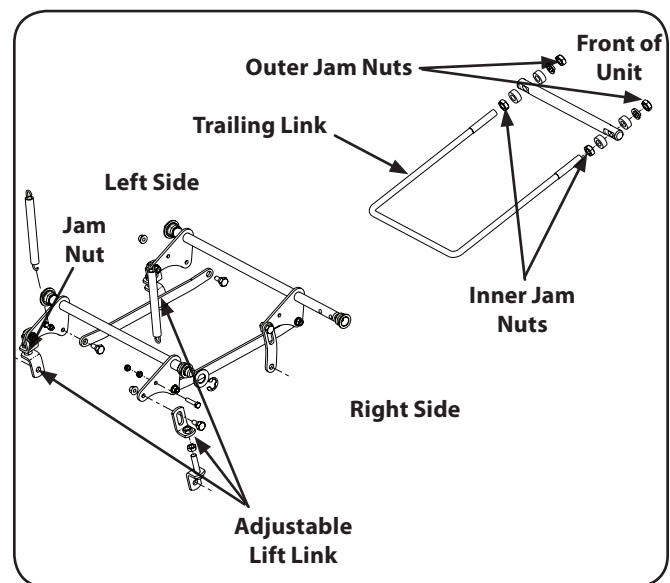

Figure 6-6
5. With a 3/4" wrench loosen the lower jam nut of the left side of the lift link. To adjust the side of the deck up or down turn the upper jam nut clockwise (to raise) or counter clockwise (to lower) a few turns. See Fig. 6-6.
8. The final adjustment would be to set the Trailing Link by adjusting the jam nuts on the threaded link. Loosen the jam nuts and tighten the inner nut to achieve the correct length and belt tension. See Fig. 6-6.